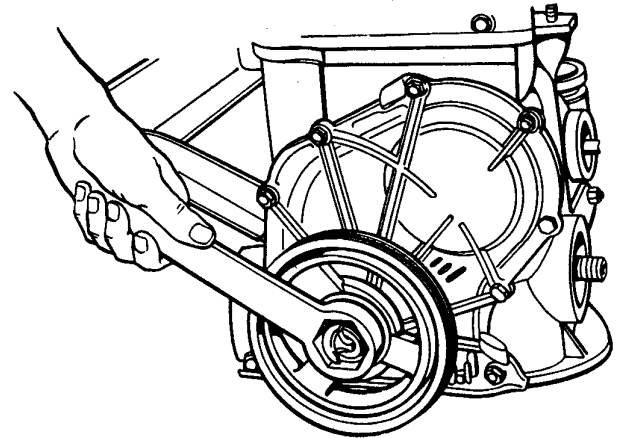
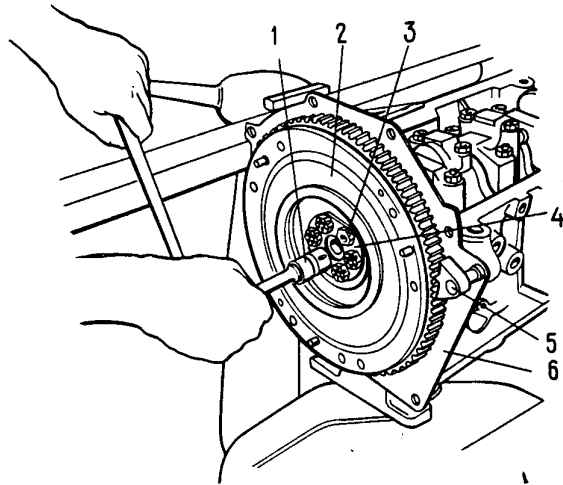

Fig. 2-5. Unscrewing Crankshaft Starting Jaw with Wrench A.50121
Fig. 2-10. Removing Flywheel:
Remove the crankshaft pulley securing the flywheel with fixing tool A.60330/R (Fig. 2-10) and unscrewing the crankshaft starting jaws with wrench A.50121 (Fig. 2-5).
Install fixing tool 5 (Fig. 2-10), unscrew bolts 3, take off washer 4 and pull the flywheel from the crankshaft. Remove the front cover of the clutch housing.
Install clutch housing front cover 6 (Fig. 2-10) with the aid of two aligning bushings.
- if the marks are in alignment, lock the flywheel with fixing tool A.60330/R (Fig. 2-10), tighten up finally the sprocket bolts, the chain tensioner cap nut and lock the sprocket bolts by the lock washers; if the marks fail to coincide, repeat the chain installation operations.